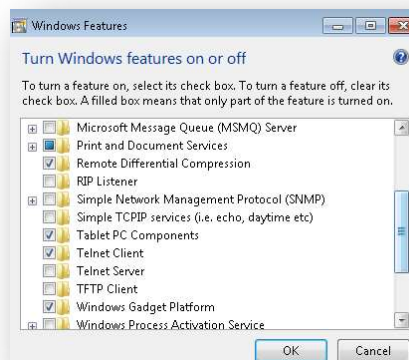

Figure 2b.
- ii. Check the Telnet Client box and choose OK. (Please see figure 2b.)